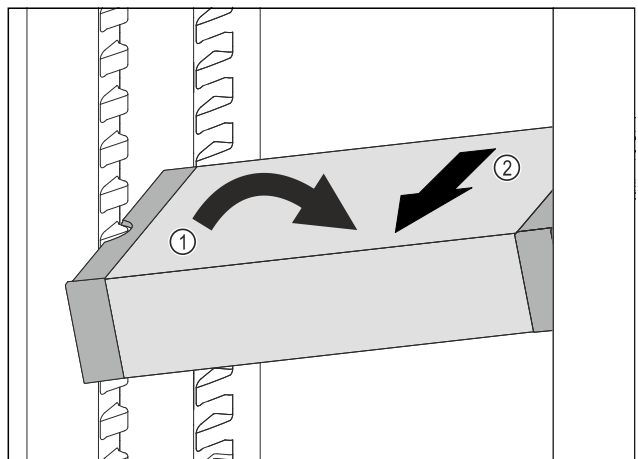

Fig. 179
- ▶ Set VarioSafe in refrigerator compartment at an angle. Fig. 179 (1)
- ▶ Take VarioSafe out to the front. Fig. 179 (2)